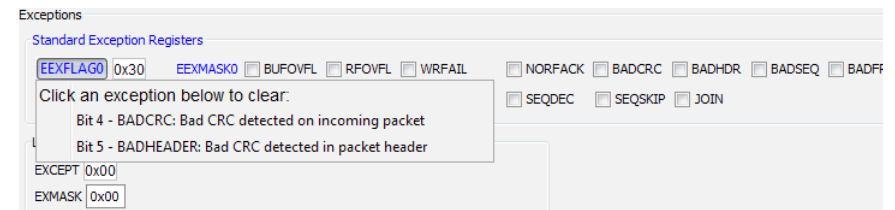

Figure 14: The Master Development System Software Exception Flags
- The EEXFLAG0 and EEXFLAG1 boxes show the current value for the flags. 0x00 means no exceptions were detected. A non-zero value means an exception flag is set. Clicking on the box opens a menu showing which flags are set. Clicking on the flag clears it (Figure 14).